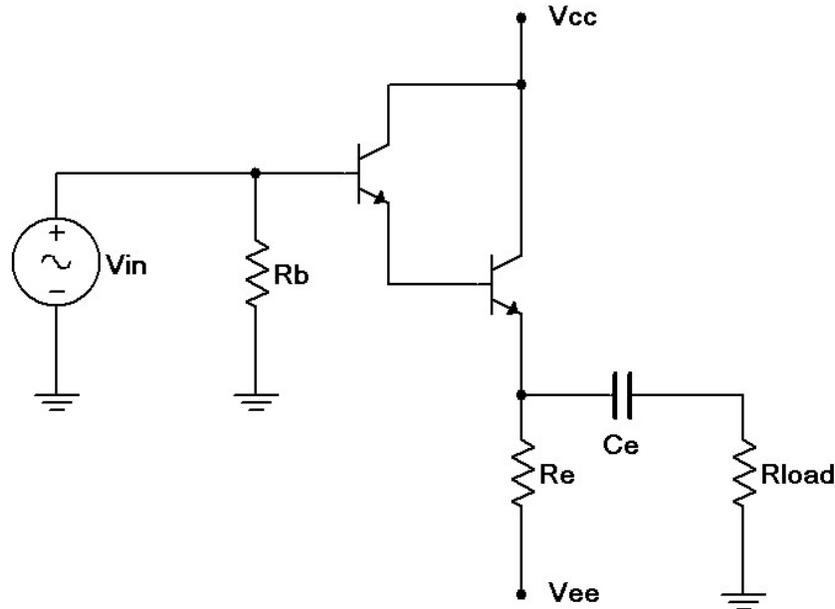

Figure 1
1. Consider the circuit of Figure 1 using  $V_{CC} = 5$  volts,  $V_{EE} = -12$  volts,  $R_b = 47$  k $\Omega$ ,  $R_e = 1$  k $\Omega$ ,  $R_{load} = 100$   $\Omega$  and  $C_e = 470$   $\mu$ F. Determine the theoretical  $I_{CQ}$ ,  $V_{CEQ}$ ,  $V_{CE(cutoff)}$  and  $i_{C(sat)}$ , and record these in Table 1. It is helpful to plot the AC load line for step three. Note that the collector-emitter saturation voltage for a Darlington pair cannot be assumed to be 0 volts, and may be closer to one volt, thus reducing the expecting voltage swing toward the saturation point. It is also worth noting that this amplifier has a *direct coupled* input (i.e., no input capacitor is required due to the very small DC base voltage).
2. Build the circuit of Figure 1 using  $V_{CC} = 5$  volts,  $V_{EE} = -12$  volts,  $R_b = 47$  k $\Omega$ ,  $R_e = 1$  k $\Omega$ ,  $R_{load} = 100$   $\Omega$  and  $C_e = 470$   $\mu$ F. Disconnect the signal source and measure the DC transistor voltages to ensure the circuit is biased correctly. Record  $V_{CEQ}$  and  $I_{CQ}$  in Table 1 (Experimental).